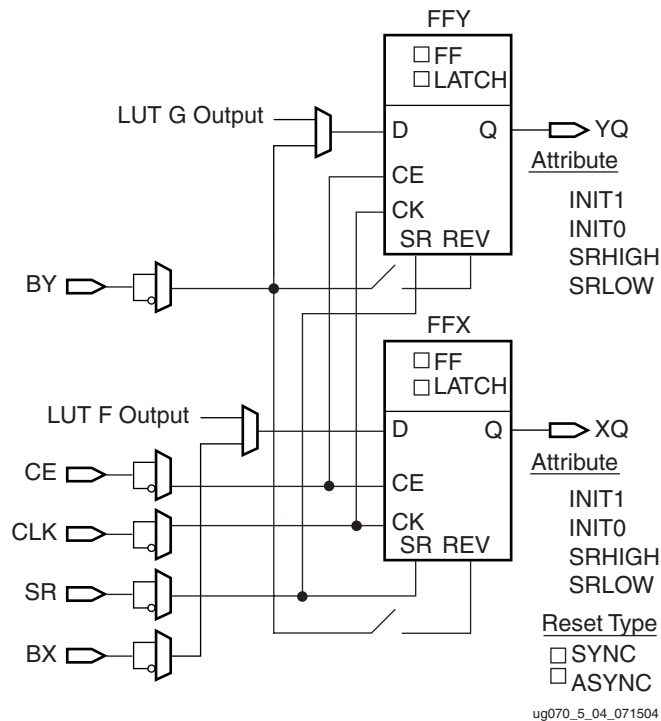

Figure 5-4: Register/Latch Configuration in a Slice
In addition to clock (CLK) and clock enable (CE) signals, each slice has set and reset signals (SR and BY slice inputs). SR forces the storage element into the state specified by the attribute SRHIGH or SRLow. SRHIGH forces a logic High when SR is asserted. SRLow forces a logic Low. When SR is used, an optional second input (BY) forces the storage element into the opposite state via the REV pin. The reset condition is predominant over the set condition. (See Figure 5-4.) The truth tables for SR are described in “ILOGIC Resources” in Chapter 7.